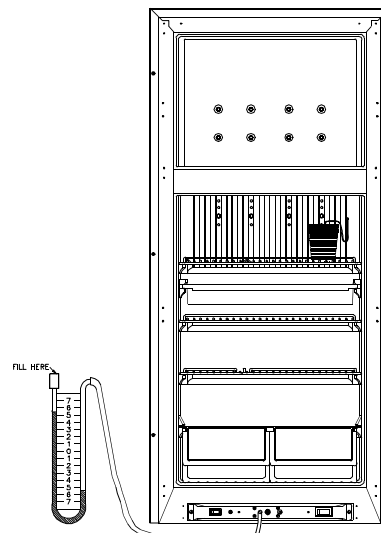

**Figure 16**
## Procedure for Cleaning Burner, Burner Orifice, and Flue-Figure 16
12. Review the illustration of the burner and orifice assembly (Figure 16 on page 17).
20. To reinstall, reverse the above procedures. ***Make sure the orifice and orifice's copper gasket are assembled as illustrated in Figure 16 on page 17.***